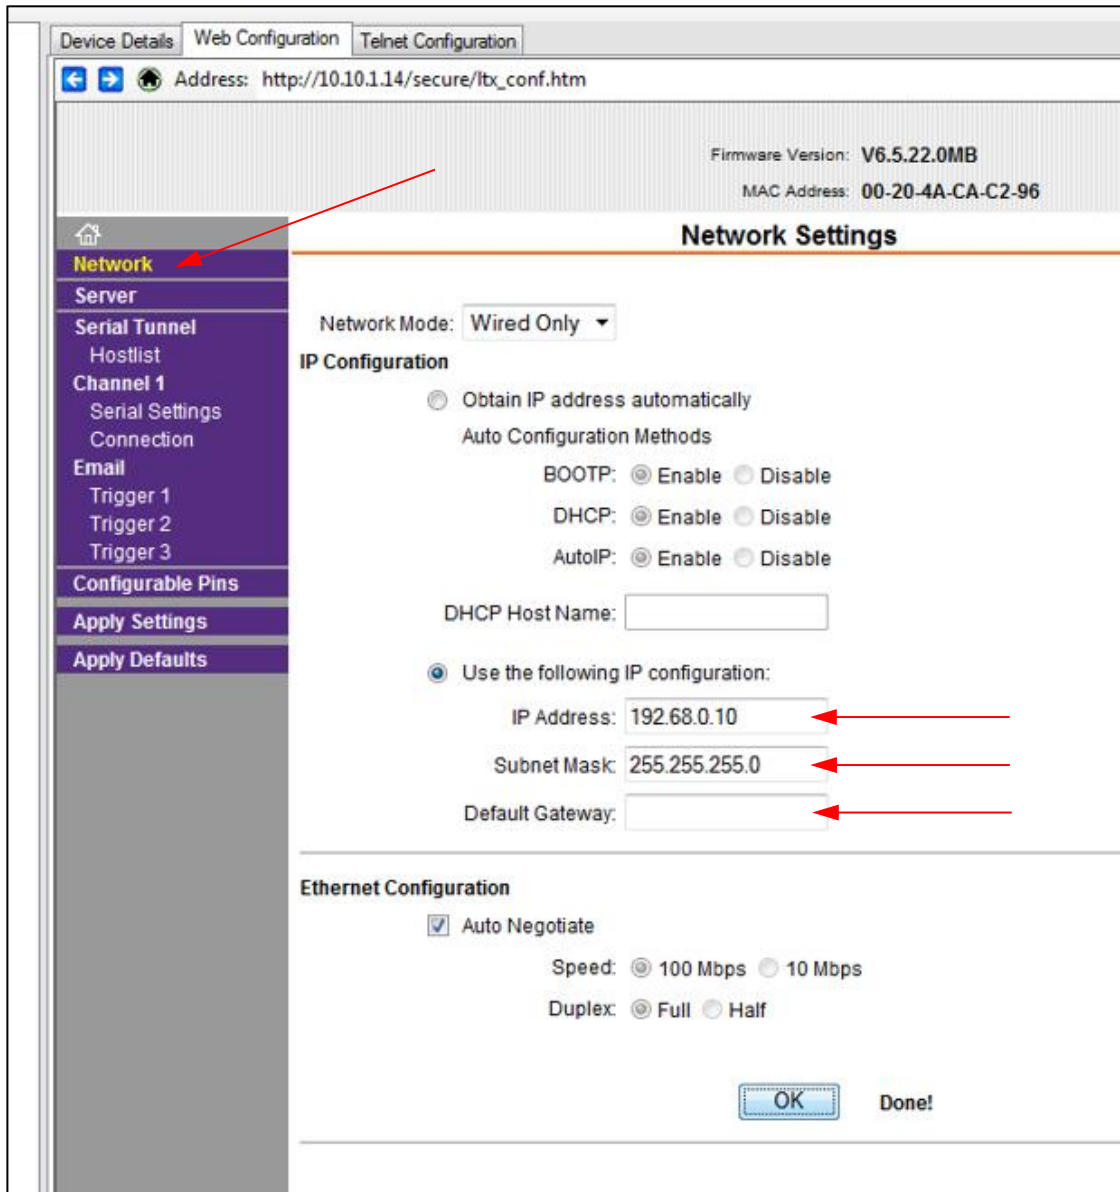

Figure 4-9 Network Settings
- Press the **OK** button to save the settings. Network Settings will display **Done!** Figure 4-9.